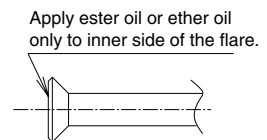

Fig. 7
- Apply ether oil or ester oil only to inner side of the flare when using flare nut connections and then turn 3 or 4 times by hand. (Refer to Fig. 7)